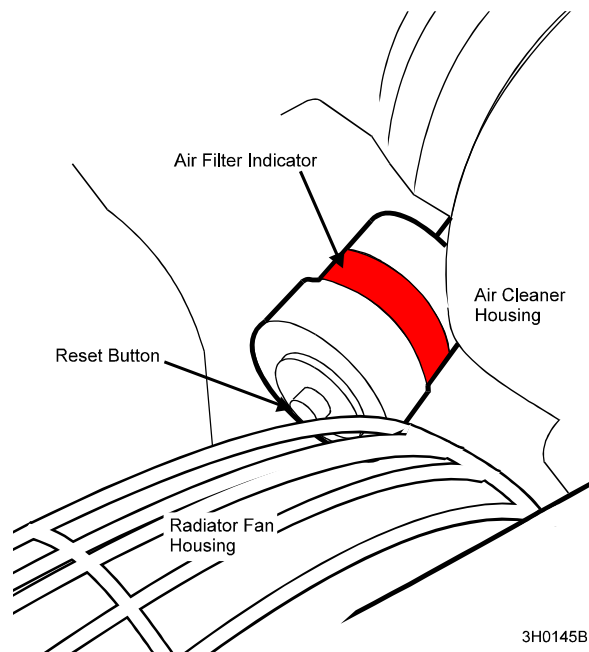

FIG. 3-3
**See Figure 3-3.** The indicator is located on the side of the air cleaner housing, behind the radiator. A red band will appear in the sight window when the air restriction is at its maximum limit. Change the air filter and push the reset button on the indicator.